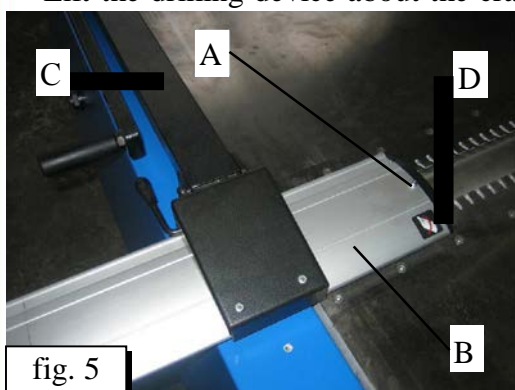

fig. 5
- , . Unscrew screw A (fig. 5).